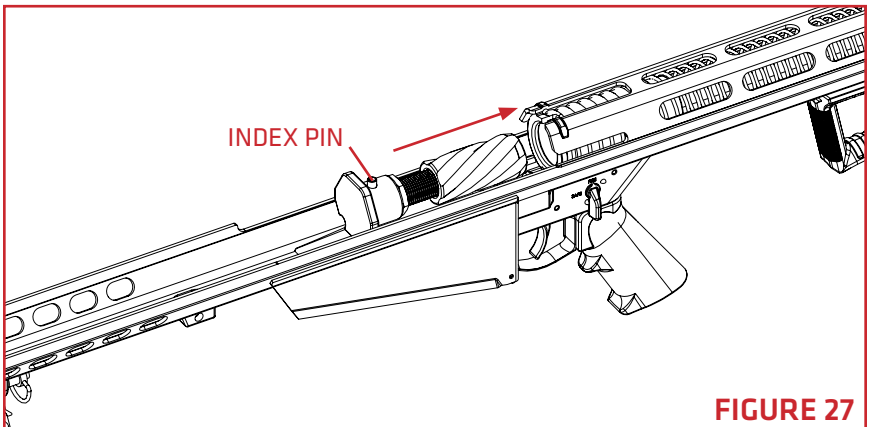

FIGURE 27
3. Insert the hydraulic buffer and ensure the index pin on the buffer nests inside the grooves in the buffer sleeve (**FIGURE 27**).